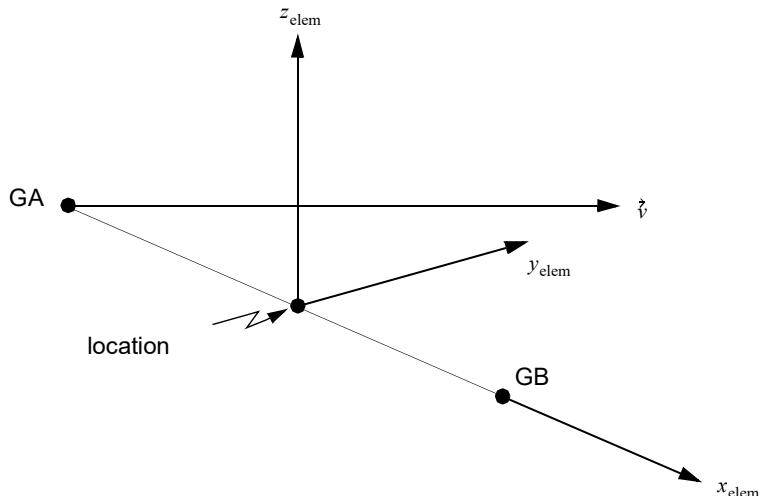

Figure 9-134 CFAST Element
3. The CFAST element (see Figure 9-134), for stiffness and structural damping calculations, is designed to satisfy rigid body equilibrium requirements. When $\hat{x}_B - \hat{x}_A$ has finite length, internal rigid links connect grids GA and GB. This may result in coupling between translational and rotational degrees-of-freedom even when no rotational stiffness (KR1-KR3) are specified. For mass calculations, half the specified mass value is placed directly onto the projected grid A and grid B translational degrees-of-freedom.